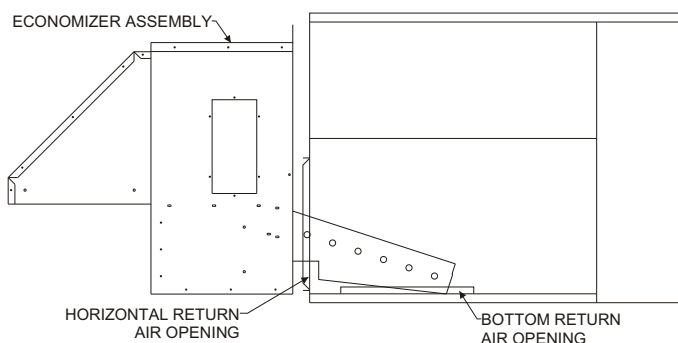

Figure 5: Installing Economizer
9. Lift and slide the economizer assembly into the horizontal return air opening of the unit. Slide the top of the economizer assembly in the space between the unit top and side so that the top edge fits under the top lip of the unit. Make sure return dampers fit into bottom return opening as shown in Figure 5.